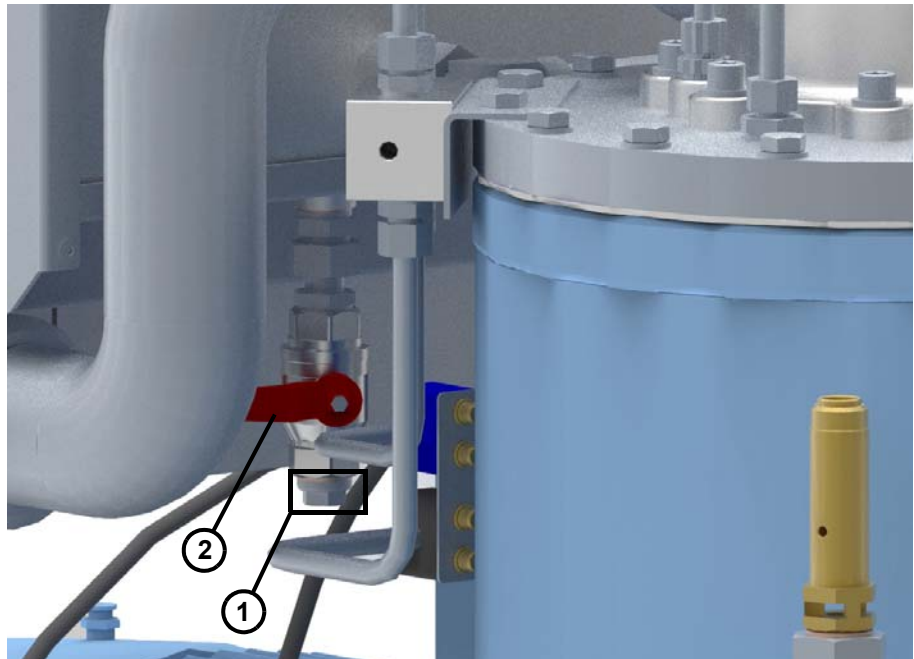

Fig. 6.13: Locking screw on the compressed air-oil cooler
13. Remove the service side claddings so that the locking screw (1) (see arrow in figure 6.13) on the compressed air-oil cooler is accessible.